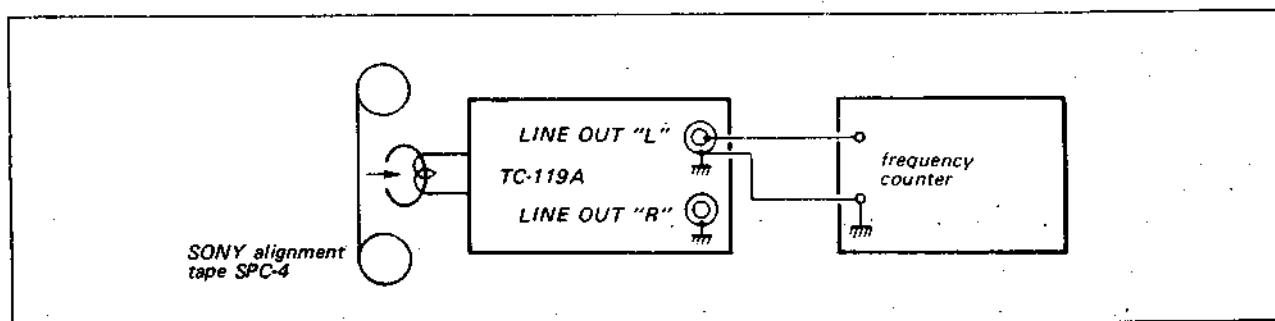

Fig. 4-1. Tape speed adjustment test setup
1. With the equipment connected as shown in Fig. 4-1, play back the beginning and the end portions of the SONY alignment tape SPC-4.